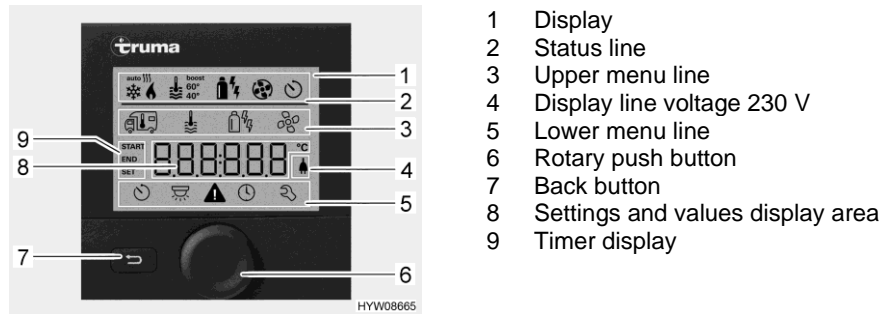
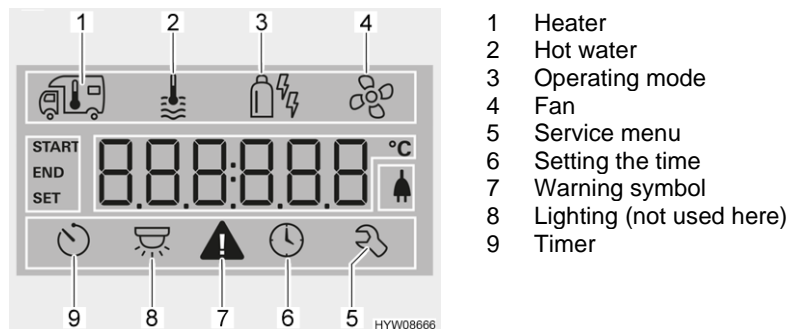

Fig. 118 Operating unit with displays
Fig. 119 Display (operating unit)
- Status line (Fig. 118,2)
- Upper menu line (Fig. 118,3)
- Display area (Fig. 118,8)
- Lower menu line (Fig. 118,5)
- Press and hold the rotary push button (Fig. 118,6) for approx. 3 seconds. Both menu lines (Fig. 118,3 and Fig. 118,5) are displayed. The first symbol flashes.
- Turn rotary push button (Fig. 118,6) until the required menu symbol flashes.
- Press rotary push button to save the value set. If you do not wish to change the value originally set: Press back button (Fig. 118,7).
- Turn rotary push button (Fig. 118,6) until the heater menu symbol (Fig. 119,1) flashes.
- Press rotary push button to save the value set. The symbol in the status line (Fig. 118,2) flashes until the room temperature set is reached. If you do not wish to change the value originally set: Press back button (Fig. 118,7).
- Turn rotary push button (Fig. 118,6) until the hot water menu symbol (Fig. 119,2) flashes.
- Press rotary push button to save the value set. The symbol in the status line (Fig. 118,2) flashes until the hot water temperature set is reached. If you do not wish to change the value originally set: Press back button (Fig. 118,7).
- Turn rotary push button (Fig. 118,6) until the menu symbol operating mode (Fig. 119,3) flashes.
- Press the rotary push button to save the set operating mode. To revert to the original setting: Press back button (Fig. 118,7).
- Turn rotary push button (Fig. 118,6) until the fan menu symbol (Fig. 119,4) flashes.
- Turn rotary push button (Fig. 118,6) until the timer menu symbol (Fig. 119,9) flashes.
- Press rotary push button. The timer is activated. The timer symbol (Fig. 119,9) flashes when the timer is programmed and active.
The warning symbol (Fig. 119,7) flashes in the event of a warning. The heater continues to operate. In the event of only a temporary fault, the warning symbol goes out automatically.